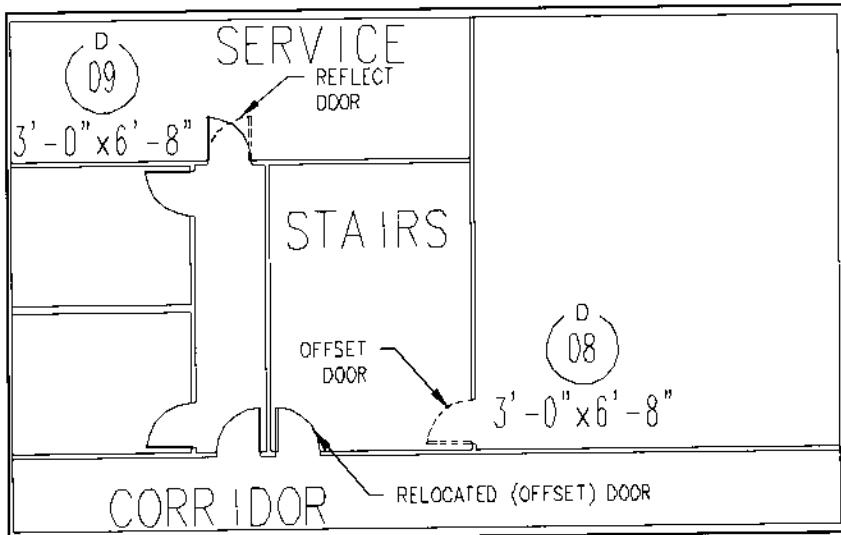

Figure 15.
1. Offset door 08 in the Stairs area from Office-3 to the Corridor as shown in Figure 15.
1. Reflect door 09 as shown in Figure 15 by selecting Reflect from the Tools menu.